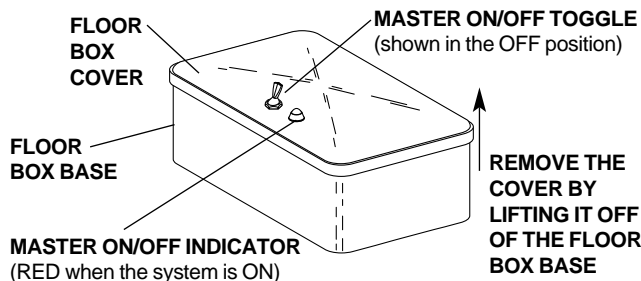

FIGURE 1
1. Move the Master On/Off toggle, located on the floor box (see Figure 1), to the OFF position. Bleed the system of air and water by operating the syringe.
2. Remove the floor box cover by simply lifting the cover off of the floor box base (see Figure 1).